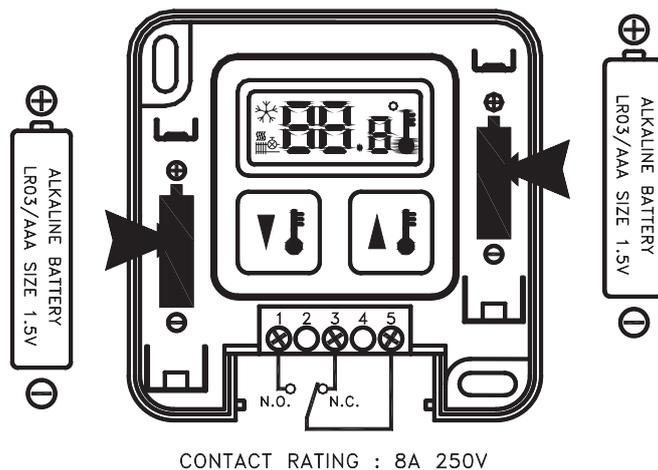

FIG. 6
6. Install the wires into the terminal block and tighten the screws (see figure 6).
**Wiring Diagram (see FIG. 6):**